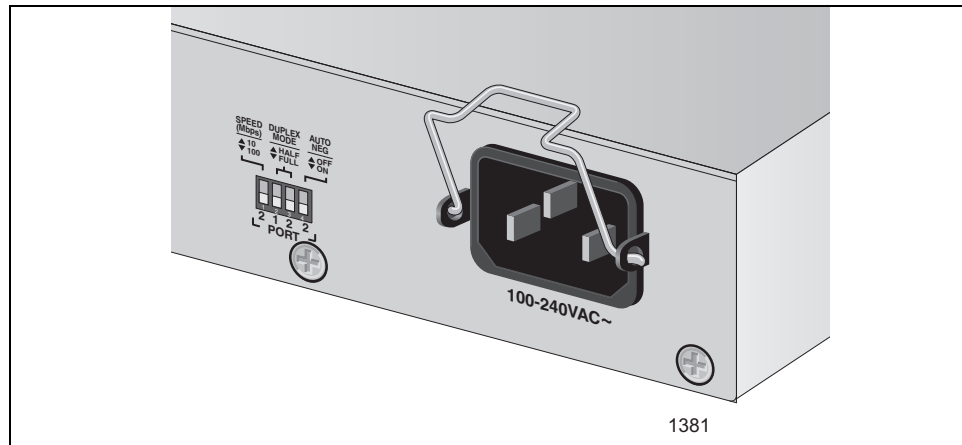

Figure 14. Power Cord Retaining Clip in the Up Position
1. Position the power cord retaining clip in the up position, shown in Figure 14.